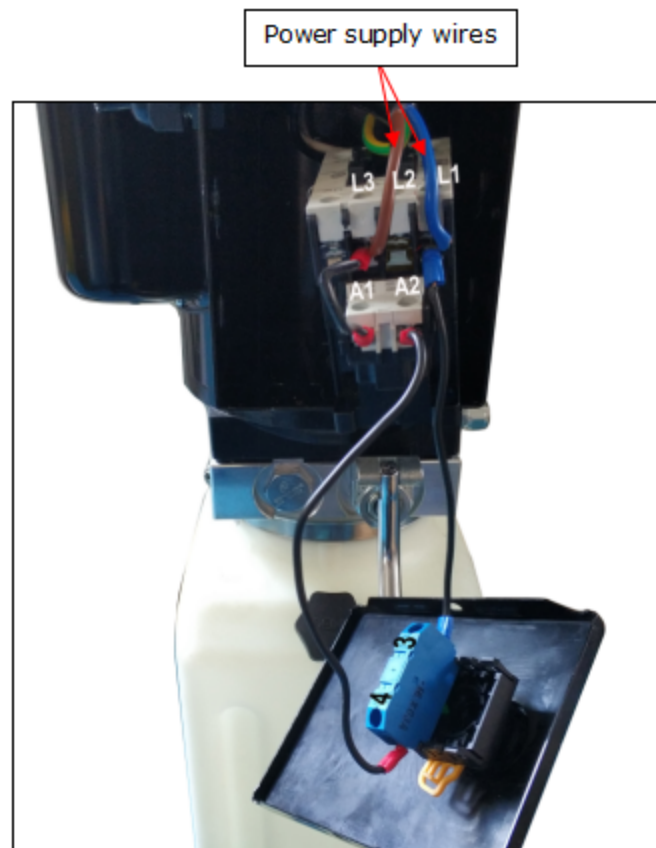

Fig. 9
2. Connection step (See Fig. 9)